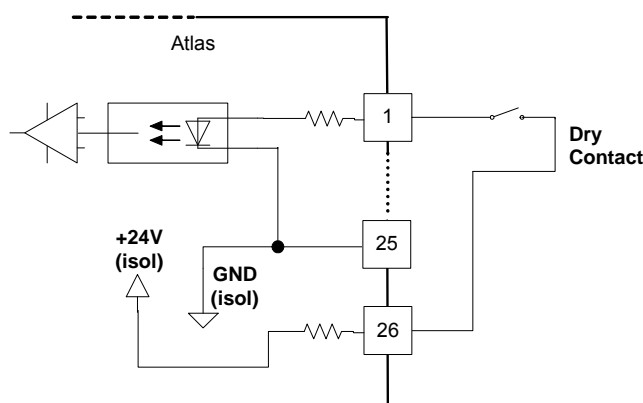

Figure 4-14. Example—Discrete Input Interface, SmartCore CPU A5200
- Refer to Figure 4-14 for discrete input wiring.